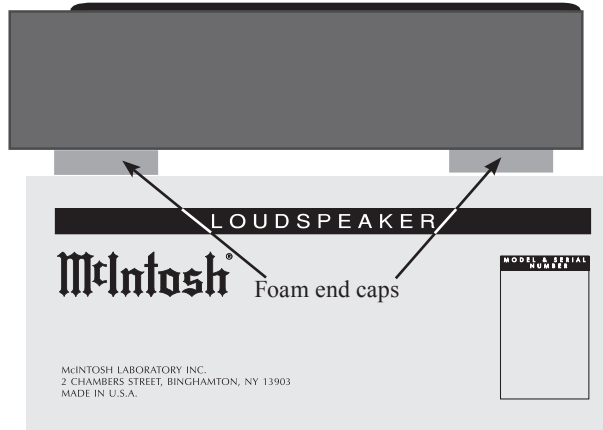

Figure 7A
6. Close the top flaps of the shipping carton and place the top and bottom foam pads on top of the carton. Refer to figure 7A for the next several steps.